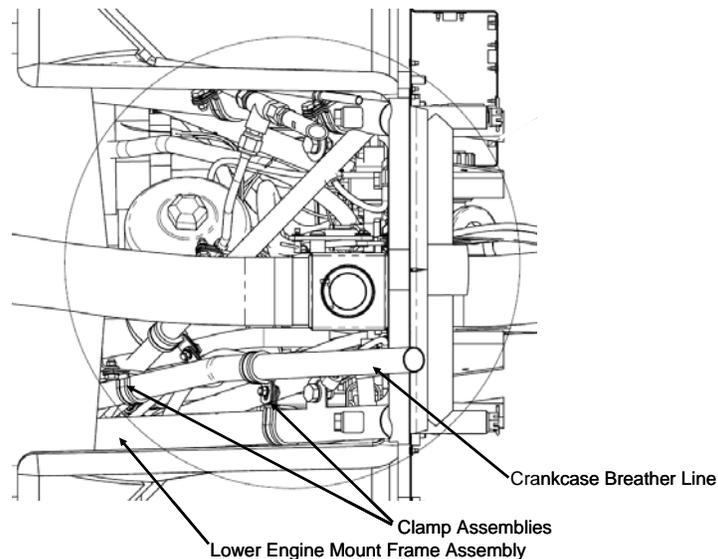

Figure 71-20 Crankcase Direct Breather Line Clamp Installation
22. If so equipped, Install crankcase direct breather line clamp assemblies to the lower engine mount frame assembly as shown in Figure 71-20. Breather line is installed on the engine prior to airframe installation.